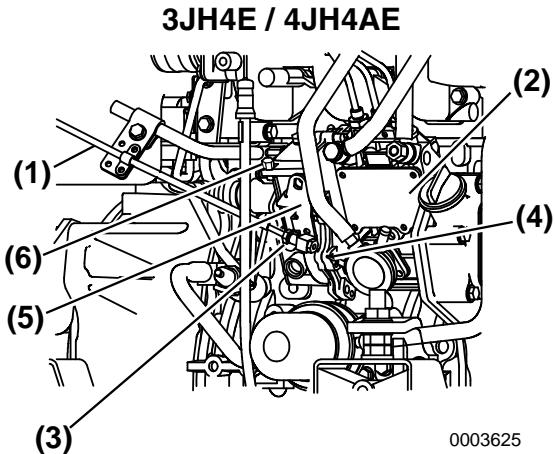
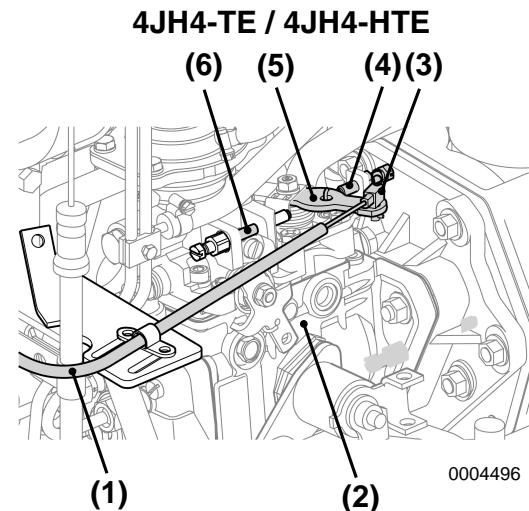

Figure 5
Figure 6
1. To adjust, loosen the adjustment screw or cable fitting (**Figure 5, (3)**) or (**Figure 6, (3)**) for the remote control cable on the engine side and adjust.
2. Adjust the high speed stop (**Figure 5, (6)**) or (**Figure 6, (6)**), position first and then adjust the low speed stop (**Figure 5, (4)**) or (**Figure 6, (4)**), with the adjustment screw on the remote control lever (**Figure 5, (5)**) or (**Figure 6, (5)**).